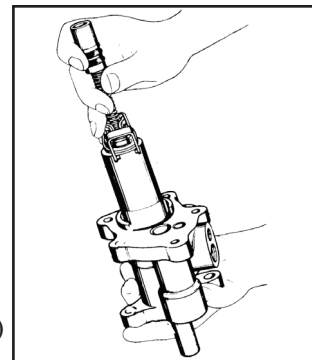

FIGURE 6
6. Lubricate power piston installation tool J-24551. Align piston into bore. Attach spool valve to tabs of ratio lever and carefully install piston and spool valve into appropriate bores. (Figure 6).